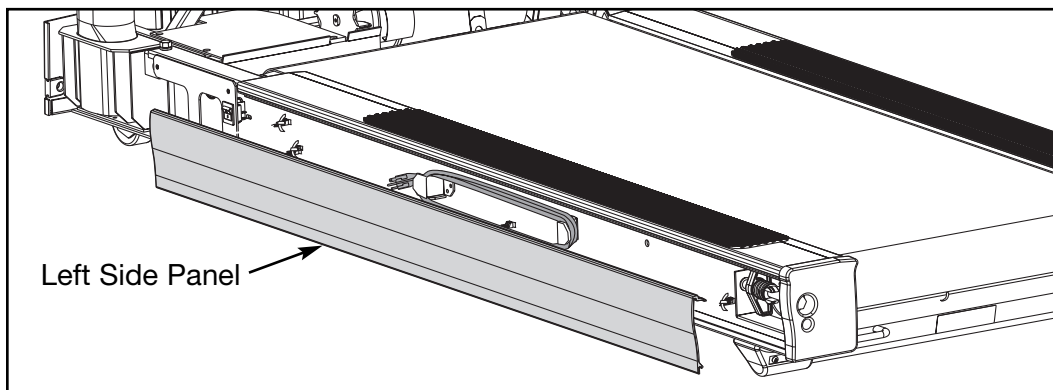

Figure 9
- A.** Pull the left side panel away from the base. See Figure 9.